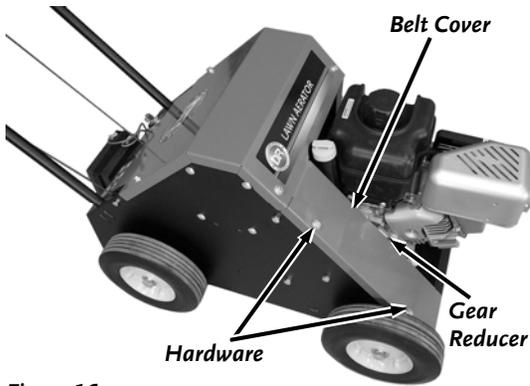

Figure 16
1. Remove the two Bolts and Flat Washers that secure the Belt Cover using a 7/16" Wrench and remove the Cover (**Figure 16**).